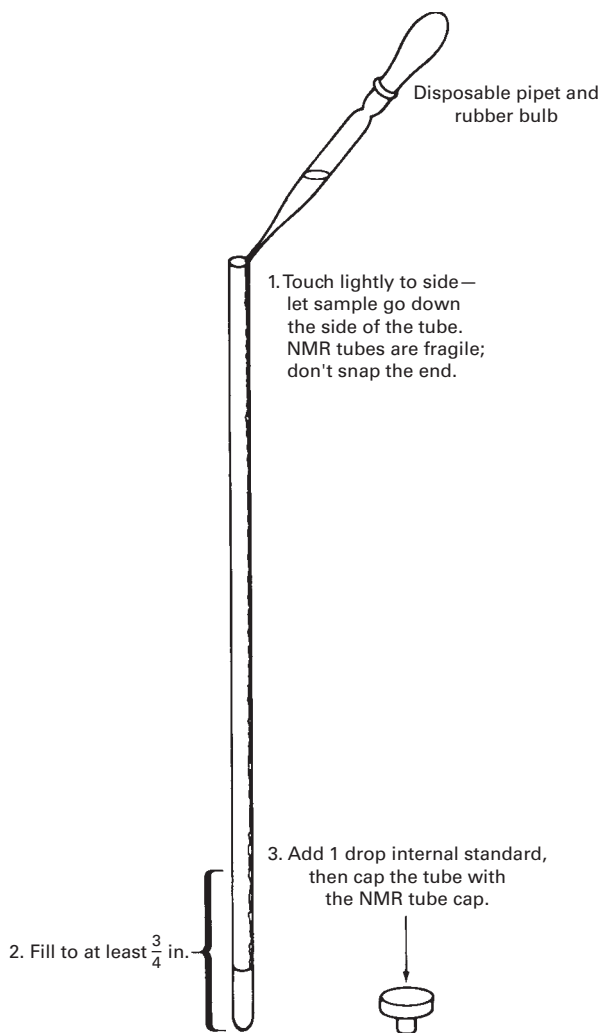

FIGURE 33.2 Loading the typical NMR tube.
1. **The NMR Sample Tube.** A typical NMR tube is about 180 mm long and 5 mm wide and runs about 5 bucks apiece for the inexpensive model adequate for 60 MHz NMR use. They also have matching color-coded designer caps (Fig. 33.2). Don't pick up and hold the tube by its color-coordinated designer cap. The tube, perhaps with your sample in it, could come out of the cap and fall into the instrument or onto the floor. Hold NMR tubes *just below the cap* by the tube itself.
2. **Preparing the sample.** How you prepare your NMR sample not only depends on whether it is a solid or a liquid, but also whether you have a Fourier Transform (FT) IR continuous wave (CW) instrument. Carefully pick out your situation: